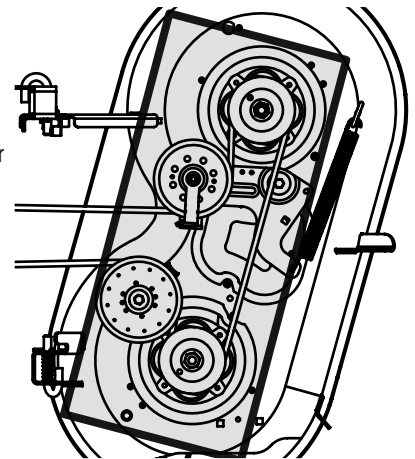

Figure 29
- Clean the top of the mower deck, under the spindle covers and belt area. See Figure 29.